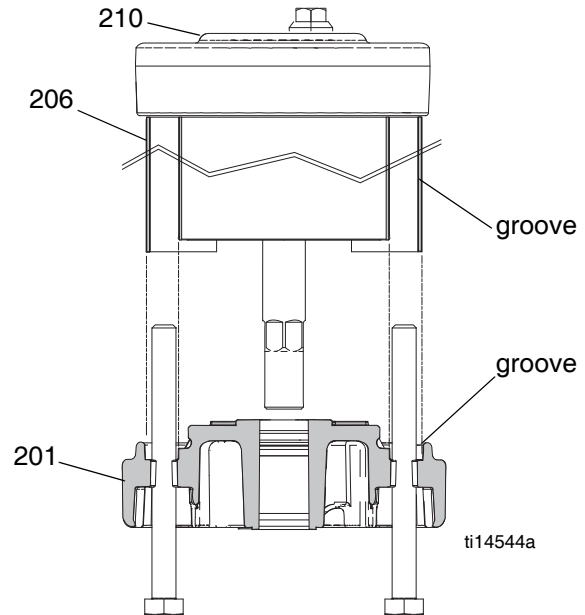

FIG. 9: Align Shield in Grooves on Covers
7. Lubricate and install the o-ring (202) on the bottom cover (201).
8. See FIG. 9. Carefully place the bottom cover (201) on the cylinder (205). Slide the rod through the bearing. The manifold surfaces of the top and bottom covers must align. Be sure the shield (206) is in the groove on both the top and bottom covers.